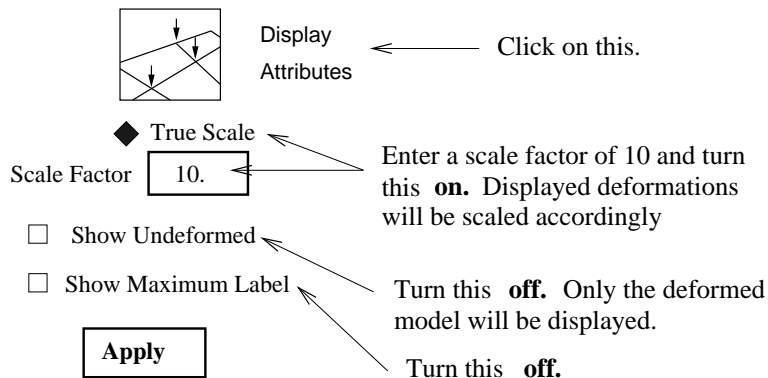

Figure 35: Change Display Properties
- Click on the 'Display Attributes' icon. Turn the 'Show Maximum Label' off (**Figure 35**).